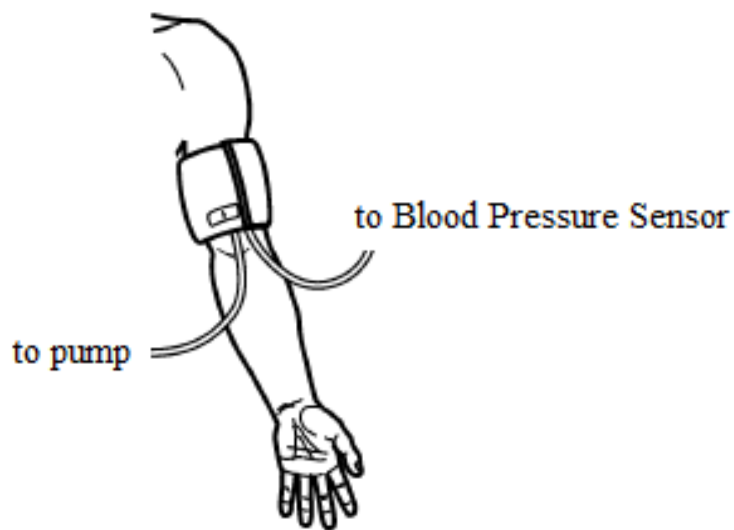

Figure 3.5: Attaching the blood pressure cuff to the subject
3. Wrap the cuff firmly around the subject's upper arm, approximately 2 cm above the elbow. The two rubber hoses from the cuff should be positioned over the bicep muscle (brachial artery) and not under the arm (see Figure 3.5).